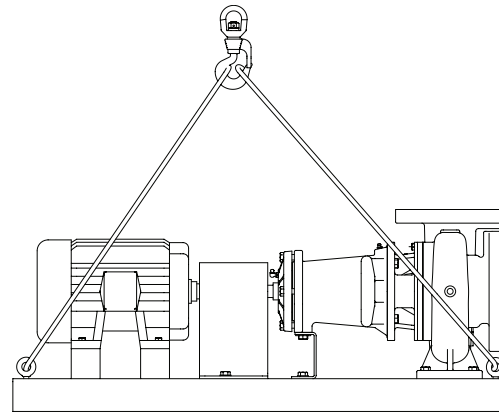

Figure 1A
- Handling, transportation and installation of this equipment should only be undertaken by trained personnel with proper use of lifting equipment. See “Uncrating and Lifting” Figures 1A and 1B for reference.